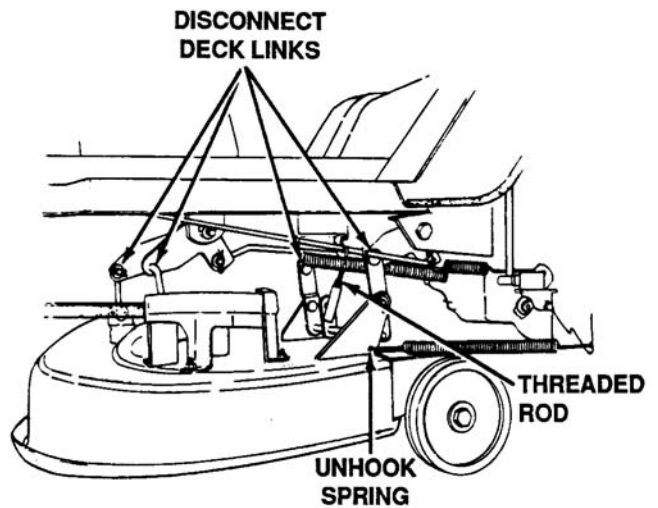

Figure 7-5. Location of Deck Links
- e. Disconnect the spring from the left rear deck bracket. See Figure 7-5.